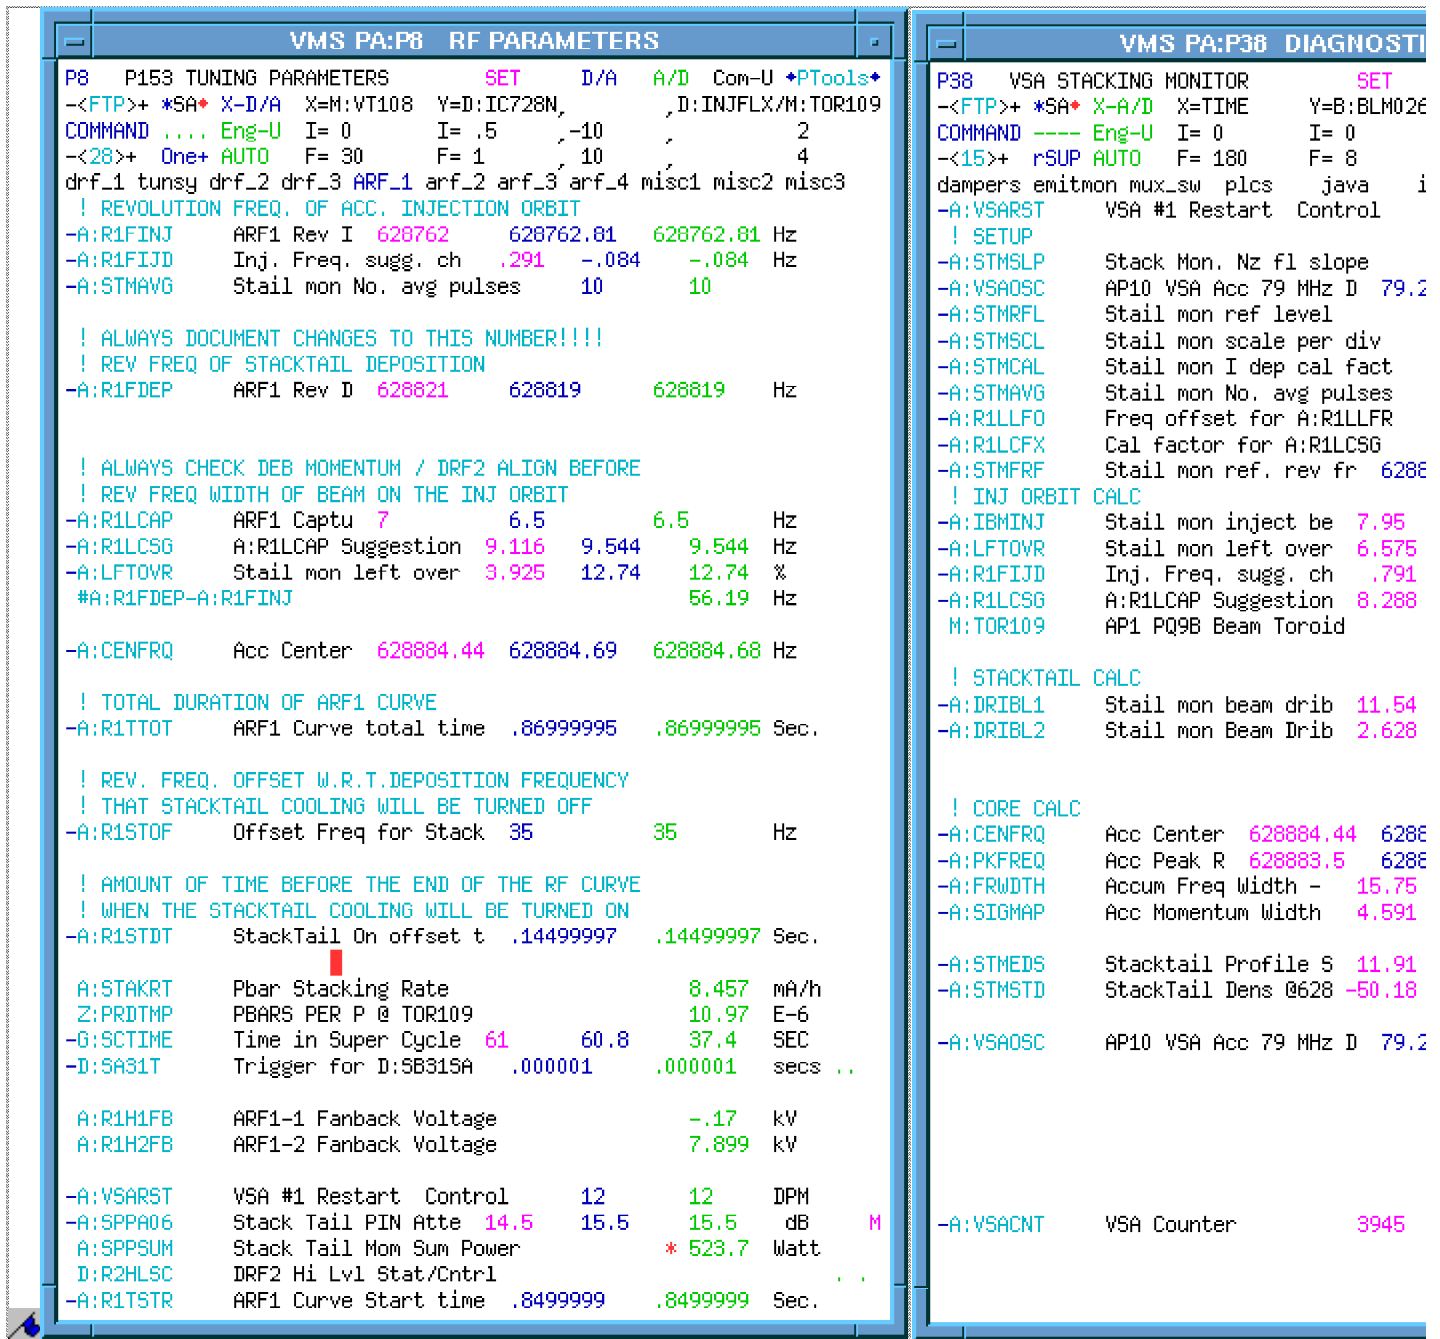

Figure 24: The page on the left is P8 ARF\_1 <28>, which contains the ARF1 tuning parameters. The page on the right is
- There are two helpful parameter pages shown in Figure 24. P8 ARF\_1 <28> contains the ARF1 tuning parameters, and P38 McGinni <15> has the Stacking Monitor parameters.